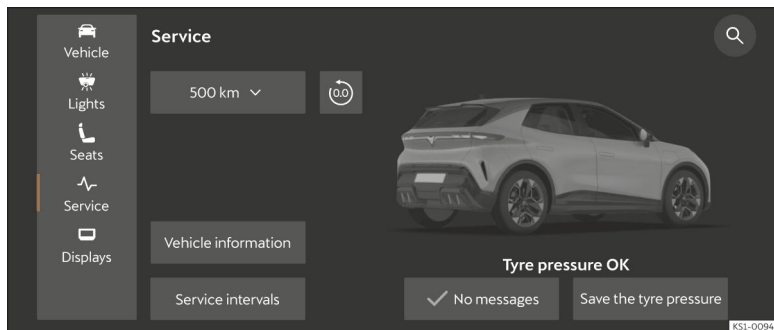

Fig. 13 Schematic representation: Vehicle settings.
- **Service:** shows fault and incident messages, tyre pressure memorisation, or information on the next inspection service >>> **Fig. 13**.